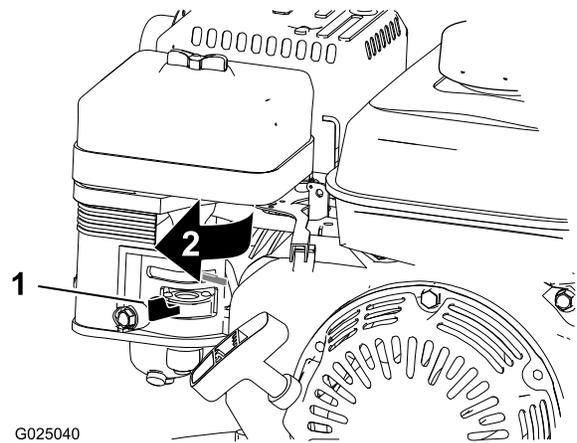

Figure 29
3. Move the fuel valve to the Off position (Figure 29).